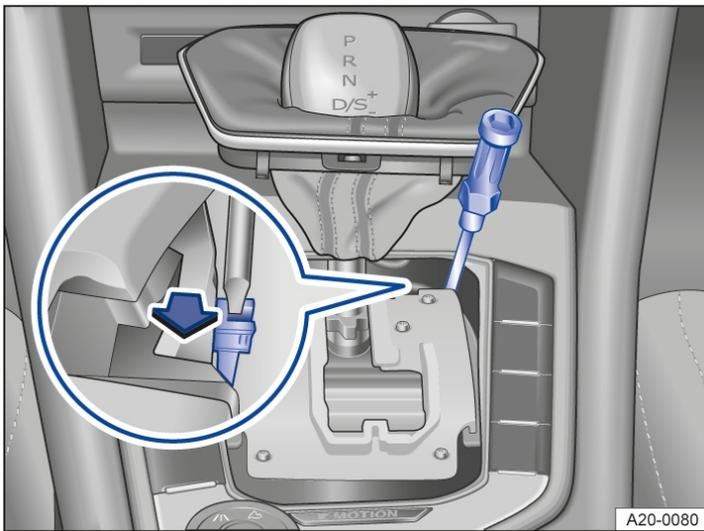

Fig. 2 Manually release selector lever lock (variant 2)
3. Carefully pull the cover upwards in the area around the selector lever gaiter with connected electrical wiring → *Fig. 1* or → *Fig. 2*.